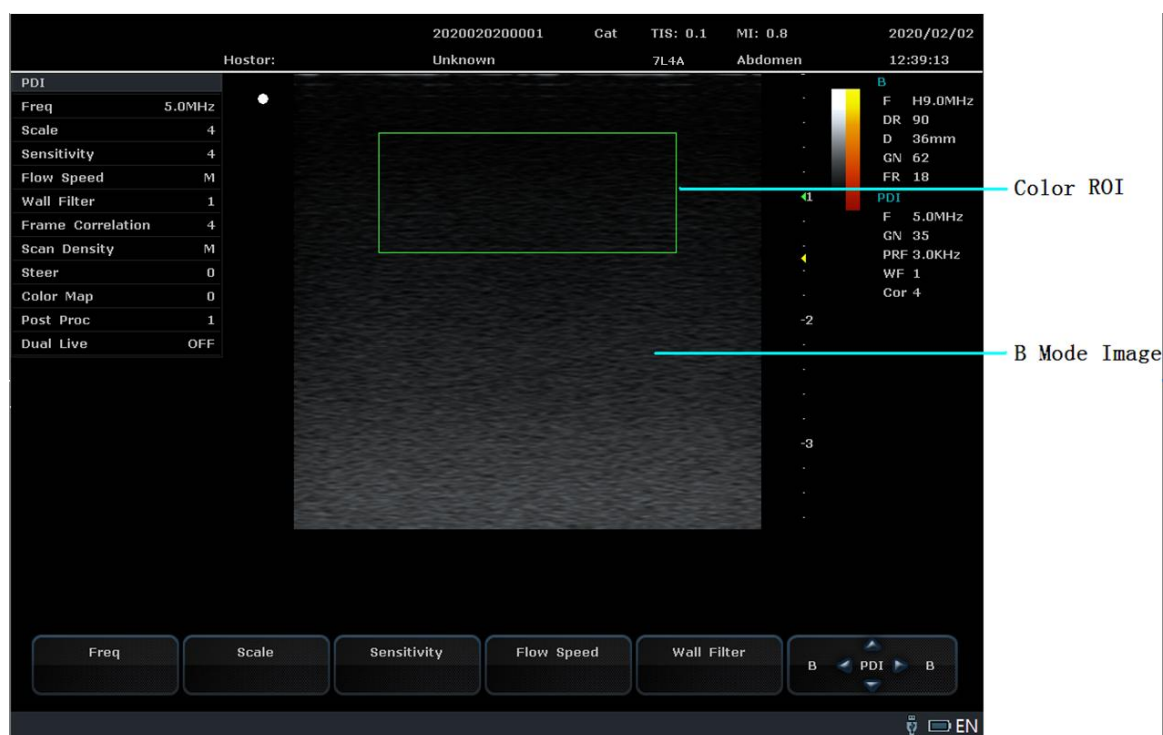

Figure 6-5 PDI Mode Image
3. Press the keys corresponding to **[PDI]** on the toolbar to enter the PDI mode, as shown in Figure 6-5.